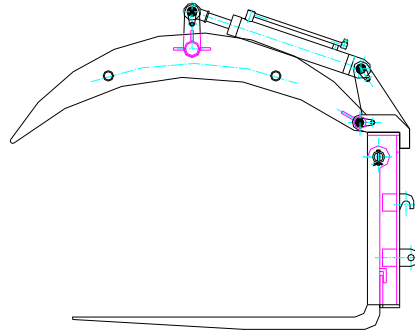

Fig.3-4 Sketch of timber grab
3.1.4 Timber grab (As shown in Fig. 3-4)